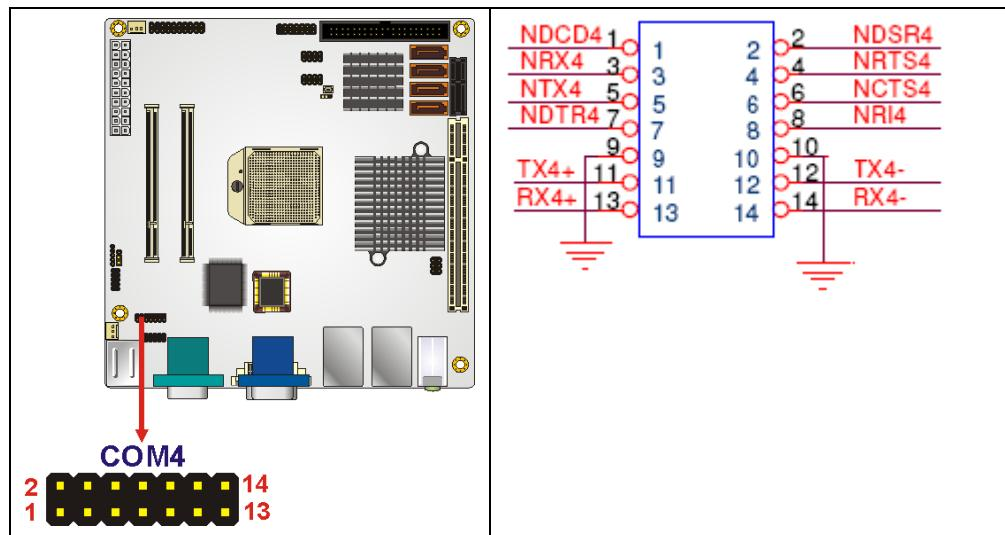

Figure 4-12: RS-232/422/485 Serial Port Connector Location
4.2.11 Serial Port Connector (COM4)(RS-232, RS-422 or RS-485)**CN Label:** COM4**CN Type:** 14-pin header (2x7)**CN Location:** See Figure 4-12**CN Pinouts:** See Table 4-13